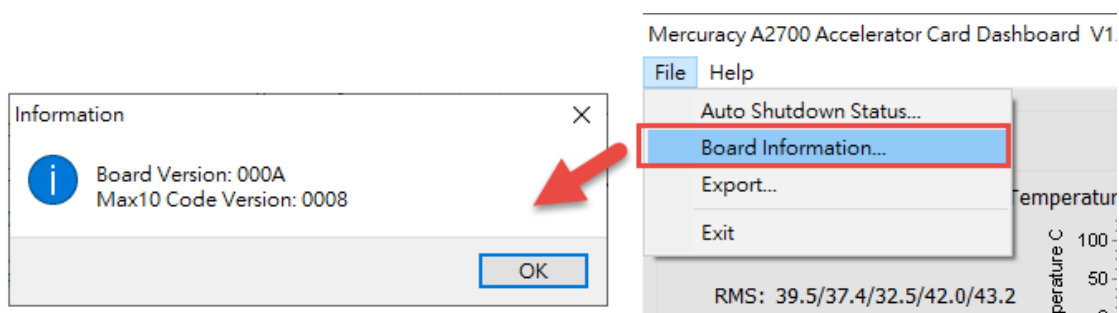

Figure 4-17 Board Information
- **Board Information:** Click the “Board Information” to get the current MAX 10 FPGA software version and the Mercury A2700 Accelerator Card version, as shown in **Figure 4-17**.